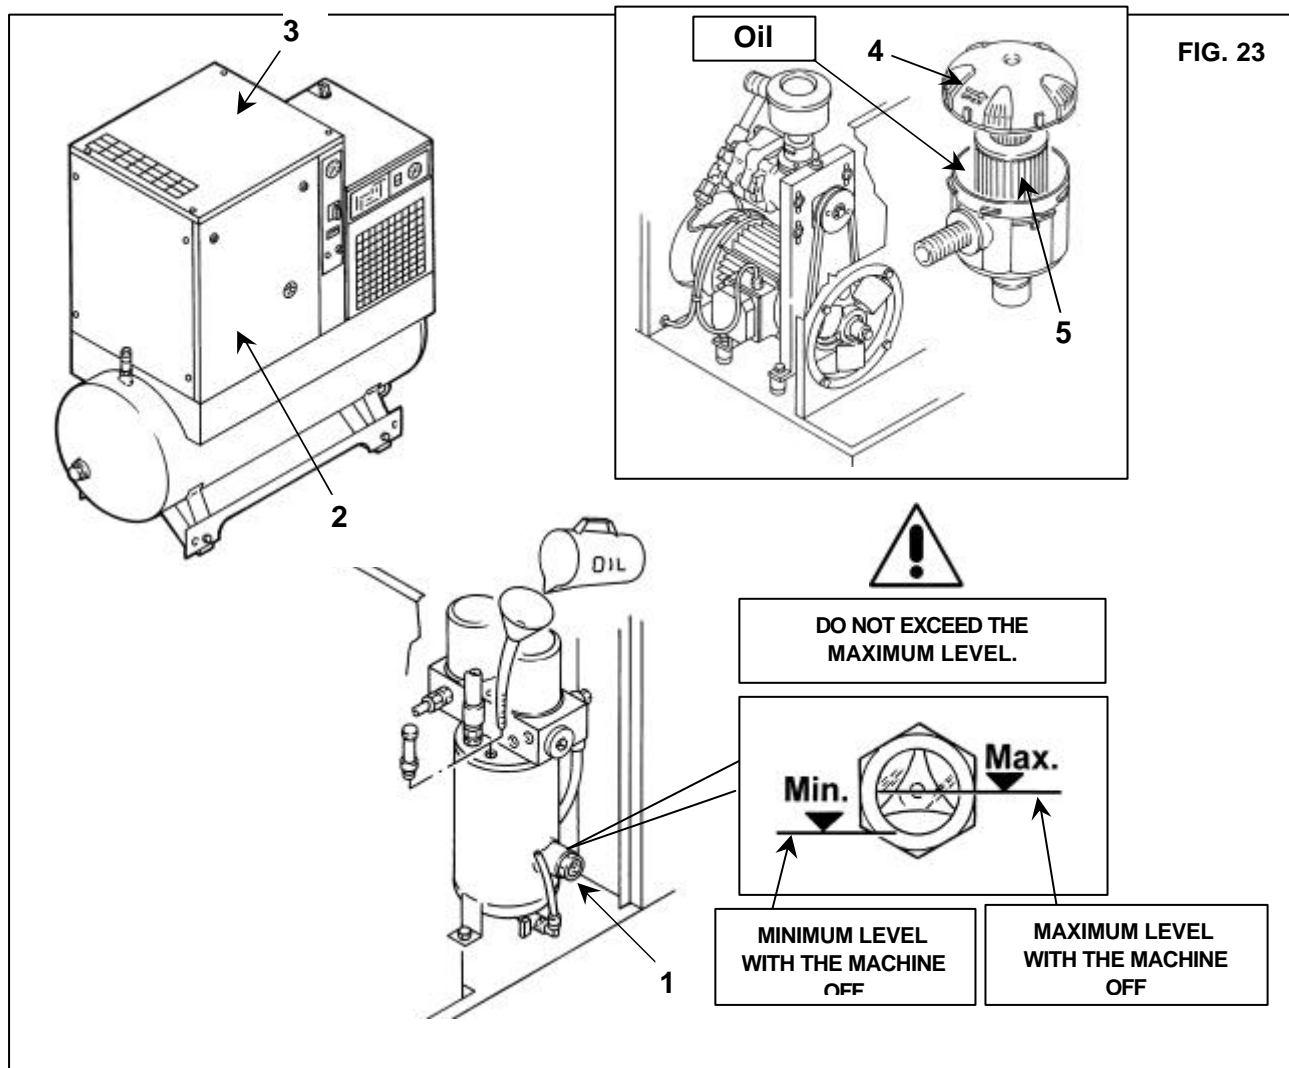

FIG. 23
Check the oil level Ref. 1 Fig. 23; when delivered the machine is filled with oil; if the oil level is not as intended, top up with the same oil as the original type.
- Remove the protection Ref. 2 Fig. 23
- Remove the fixed protection device (machine cover) Ref. 3 Fig. 23.
- Remove the cover Ref. 4 Fig. 23
- Remove the air filter Ref. 5 Fig. 23
- Reassemble the air filter Ref. 5 Fig. 23
- Reassemble the cover Ref. 4 Fig. 23